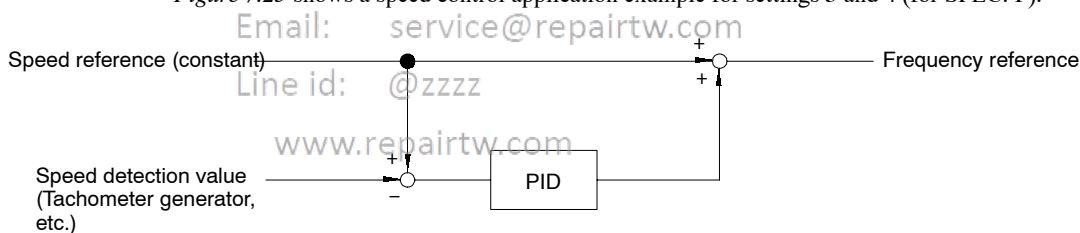

Fig 7.25 Application Example of Settings 3 and 4
- Figure 7.25 shows a speed control application example for settings 3 and 4 (for SPEC: F).